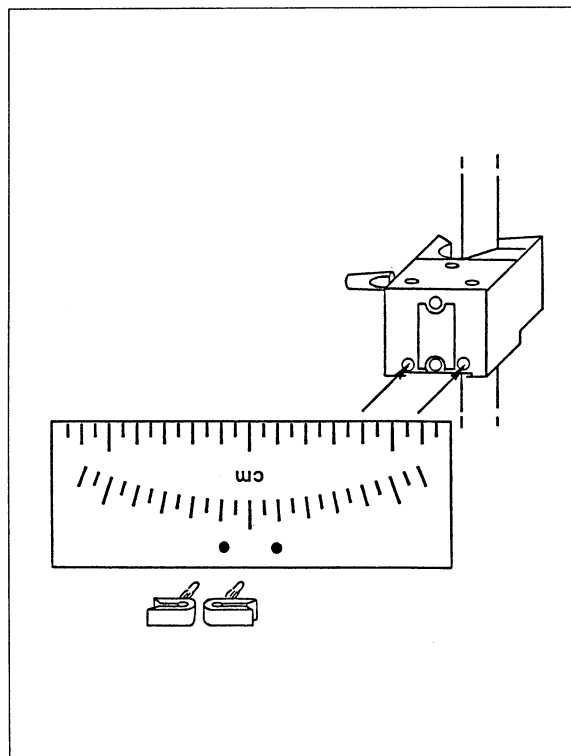

Fig. 2 Attaching the scale to the sleeve block using two retaining clips
5. Attach the scale to the (lower) sleeve block with the help of two retaining clips. ► Fig. 2.